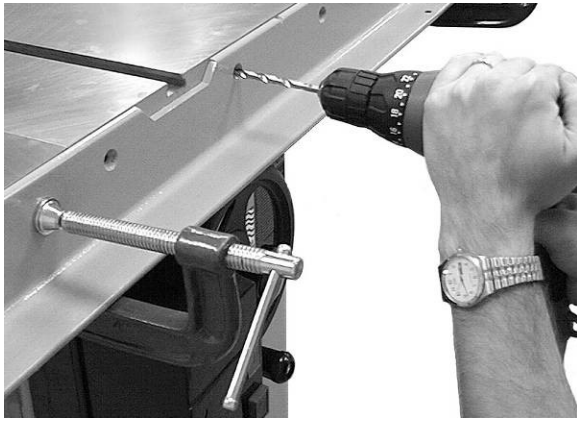

Figure 7-4
6. When front rail has been correctly positioned, and your mark still lined up with the straight edge, drill 1/4" holes into lip of table saw top, using holes in front rail as guide (Figure 7-4).